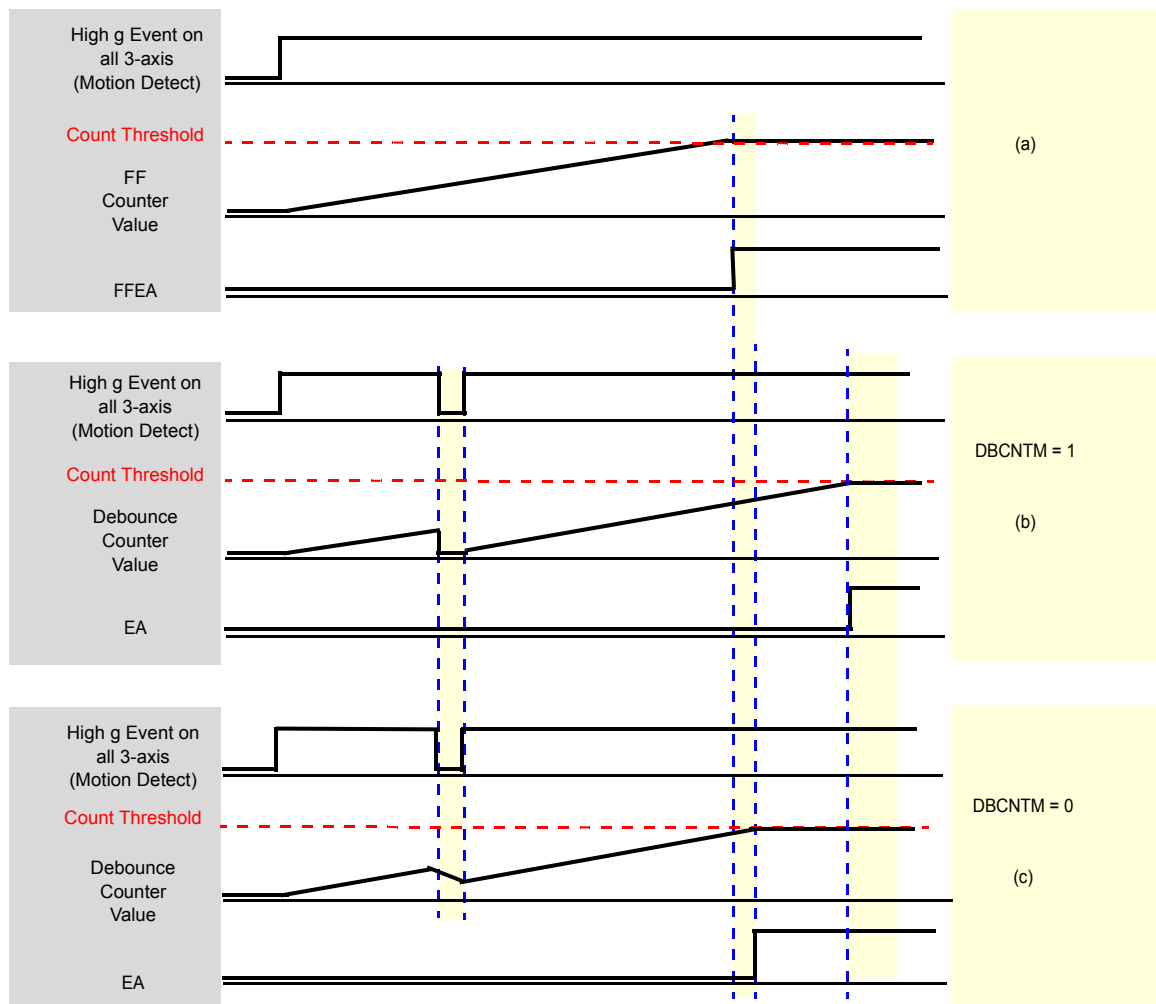

Figure 15. DBCNTM bit function
- **When the DBCNTM bit is 1**, the debounce counter is cleared to 0 whenever the inertial event of interest is no longer true as shown in Figure 15, (b).
- **While the DBCNTM bit is set to 0**, the debounce counter is decremented by 1 whenever the inertial event of interest is no longer true (Figure 15, (c)) until the debounce counter reaches 0 or until the inertial event of interest becomes active.